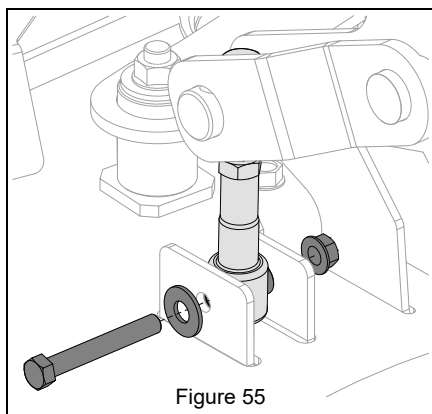

Figure 55
9. Remove hardware retaining deck-lift links to mower deck. See Figure 55.